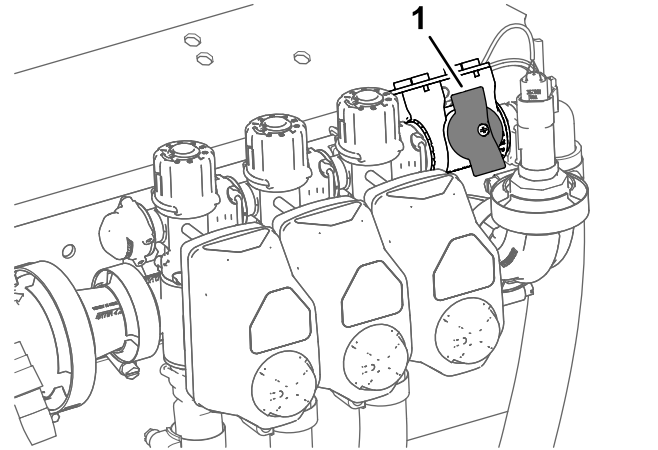

Figure 33
- For machines operated in the application-rate mode, ensure that the knob for the section-bypass shutoff valve is in the closed position (Figure 33).
- For machines operated in the application-rate mode, ensure that the section-bypass shutoff valve is closed (Figure 33).